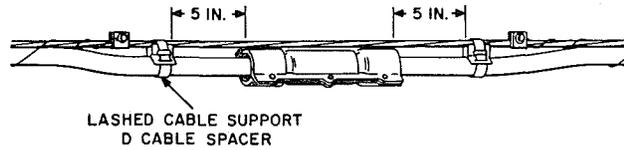

Fig. 19—Supported Splice Case
5.02 Support the cable as shown in Fig. 19.